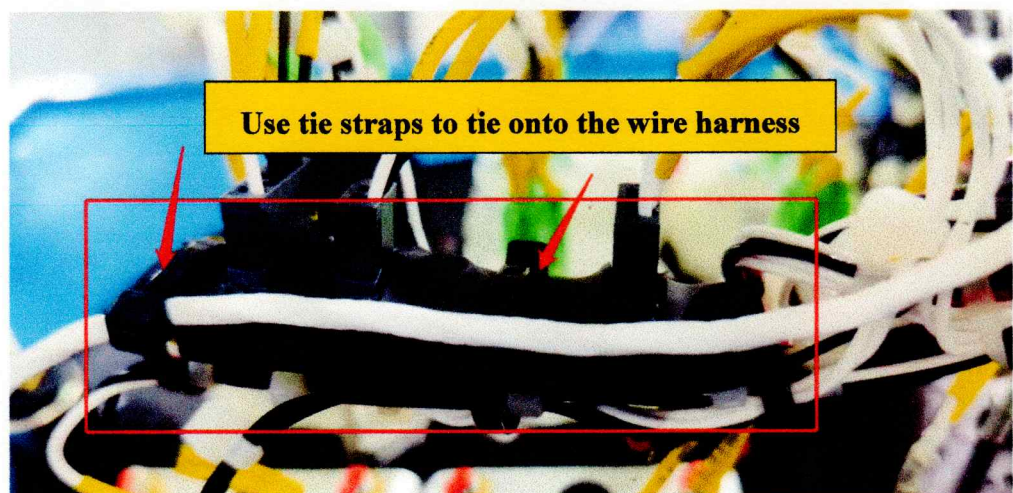

figure 12 Wrapping diagram of voice alarm board
7. Wrap the voice alarm board onto the wire harness (as shown in Figure 12), fix the new wire harness properly, then restore the aircraft and battery terminals.